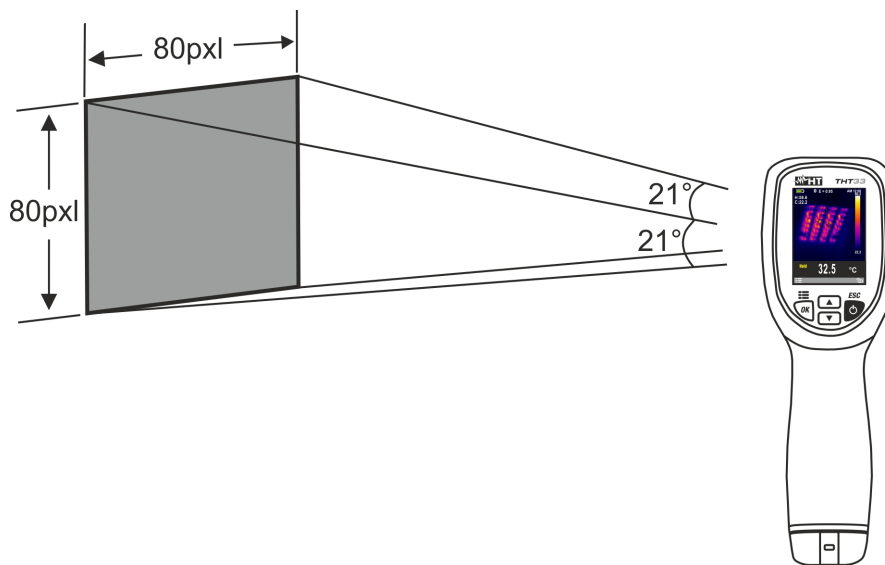

Fig. 14: Representation of the instruments field of view (FOV)
6. For accurate temperature measurements, make sure the surface of the measured object is always bigger than the surface measurable by the instrument, which is given by the instruments field of view (FOV). The instrument has a field of view of  $21^\circ \times 21^\circ$  and a detection vector of  $80 \times 80$  (6400) pxl, as described in Fig. 14